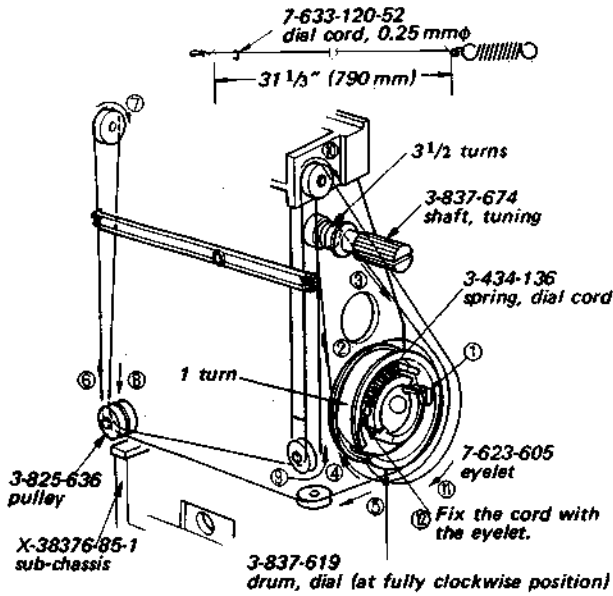

Fig. 2-10.
2. Cut the dial cord by the specified length as shown in Fig. 2-10.
1. Fix the dial cord to the protrusion (step ①) and string the cord in numerical order as shown in Fig. 2-10.